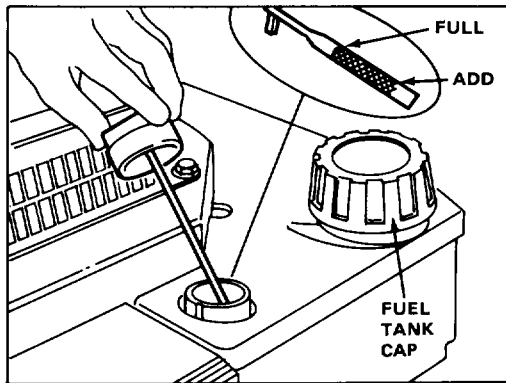

Figure 5
3. Wipe dipstick and insert it into filler neck. Rotate cap clockwise 1/4 turn. Then remove dipstick and check level of oil (Fig. 5). If level is low, add only enough oil to raise level to FULL mark on dipstick. **DO NOT FILL ABOVE FULL MARK BECAUSE ENGINE COULD BE DAMAGED WHEN STARTED.**
1. Clean around fuel tank cap and remove cap from tank (Fig. 5). Using unleaded gasoline, fill fuel tank to within 1/2 inch (13 mm) from top of tank.